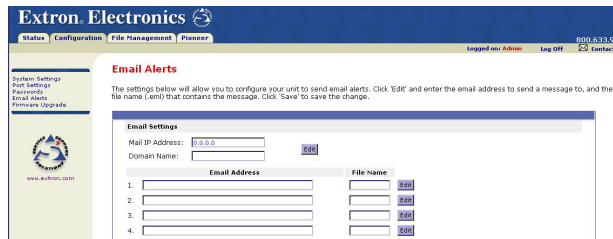

Figure 4-6 — Email Alerts screen
1. Click Email Alerts on the menu (on the left side of the window) and the Email Alerts screen (figure 4-6) is displayed.
2. Use the "Send email" SIS command to send the alert to the email address of a numeric mailbox (see figure 4-6). Refer to the "Email" section of the *Command/Response Table for Simple Instruction Set (SIS) Commands*, later in this chapter, for specific command codes.